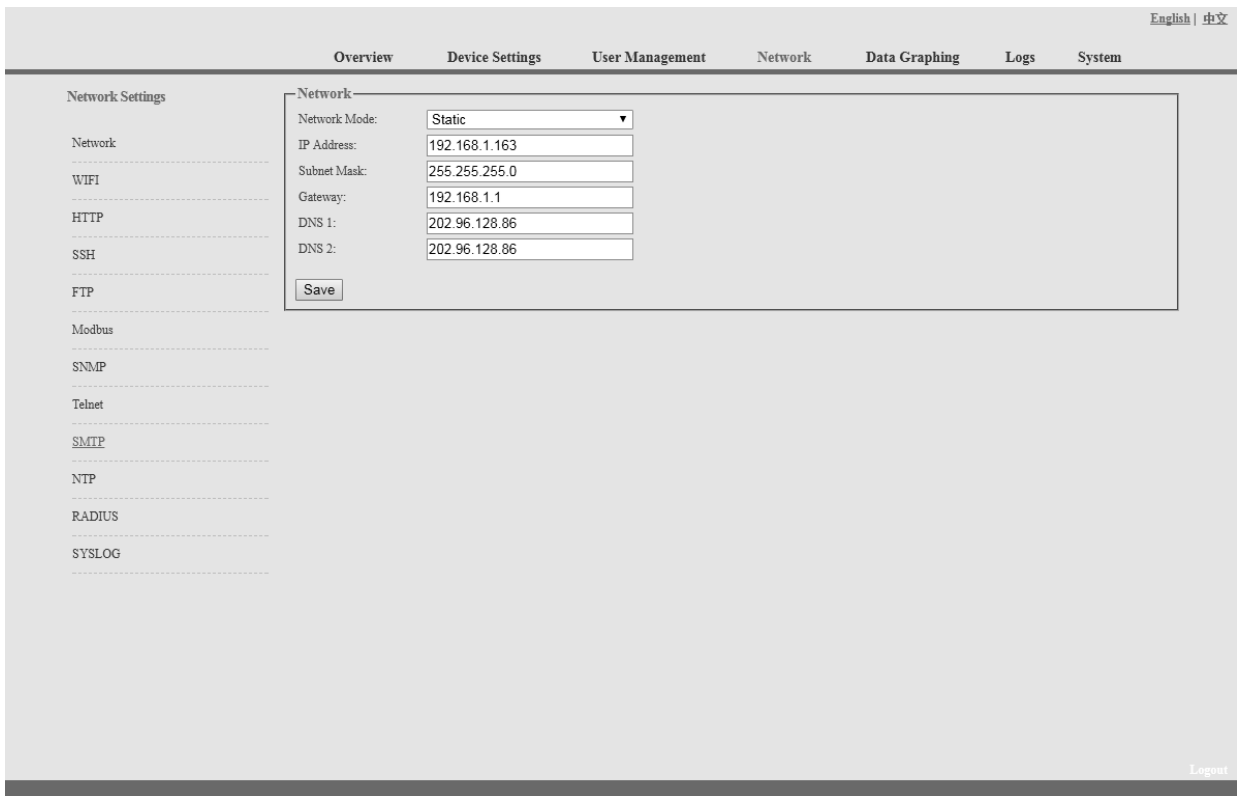

Figure 1-5
3.2.1.4 Network Settings: Click the Network Settings from the navigation bar as figure 1-5